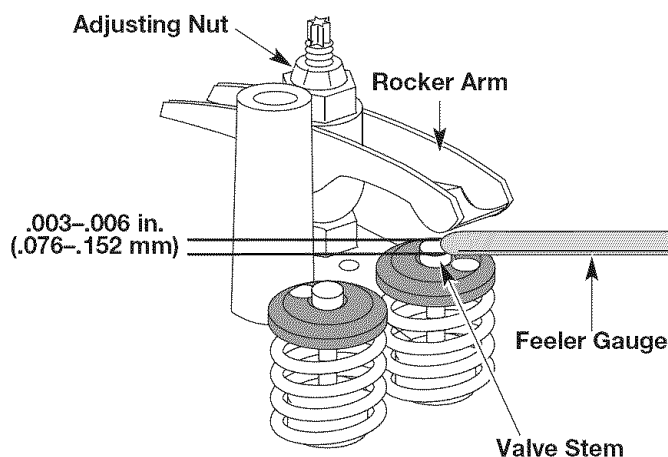

Fig. 33
7. Slide the feeler gauge between the rocker arm and the valve return spring. Measure the clearance between the valve stem and rocker arm (Fig. 33). Measure both the intake and exhaust valves.
- a. Turn the adjusting nut using a 5/16 inch (8 mm) wrench or nut driver (Fig. 33).